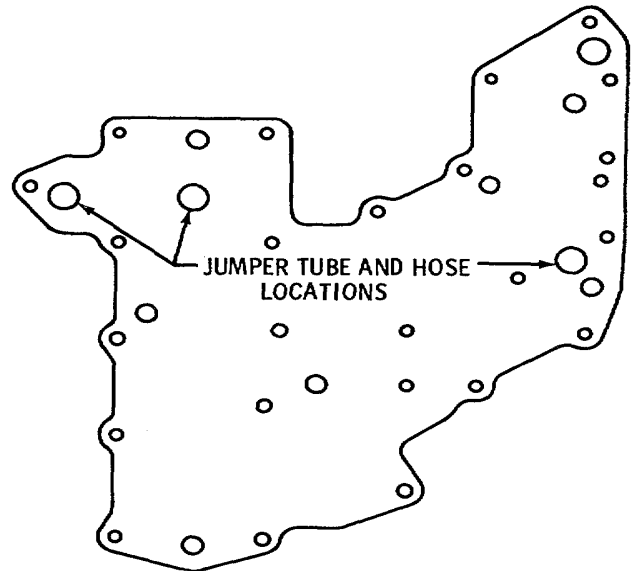
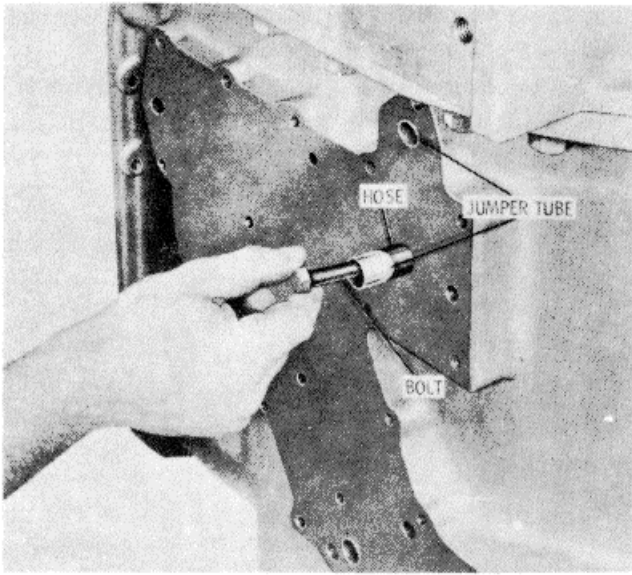

Figure 15-38. Jumper Tube and Hose Locations
Figure 15-39. Removing Jumper Tubes and Hoses
- 9. Remove three oil jumper tubes from locations shown in Figure 15-38 by installing a bolt into the tube and catching the threads on the end of the tube (Figure 15-39). Be sure the hoses are removed with the tubes.